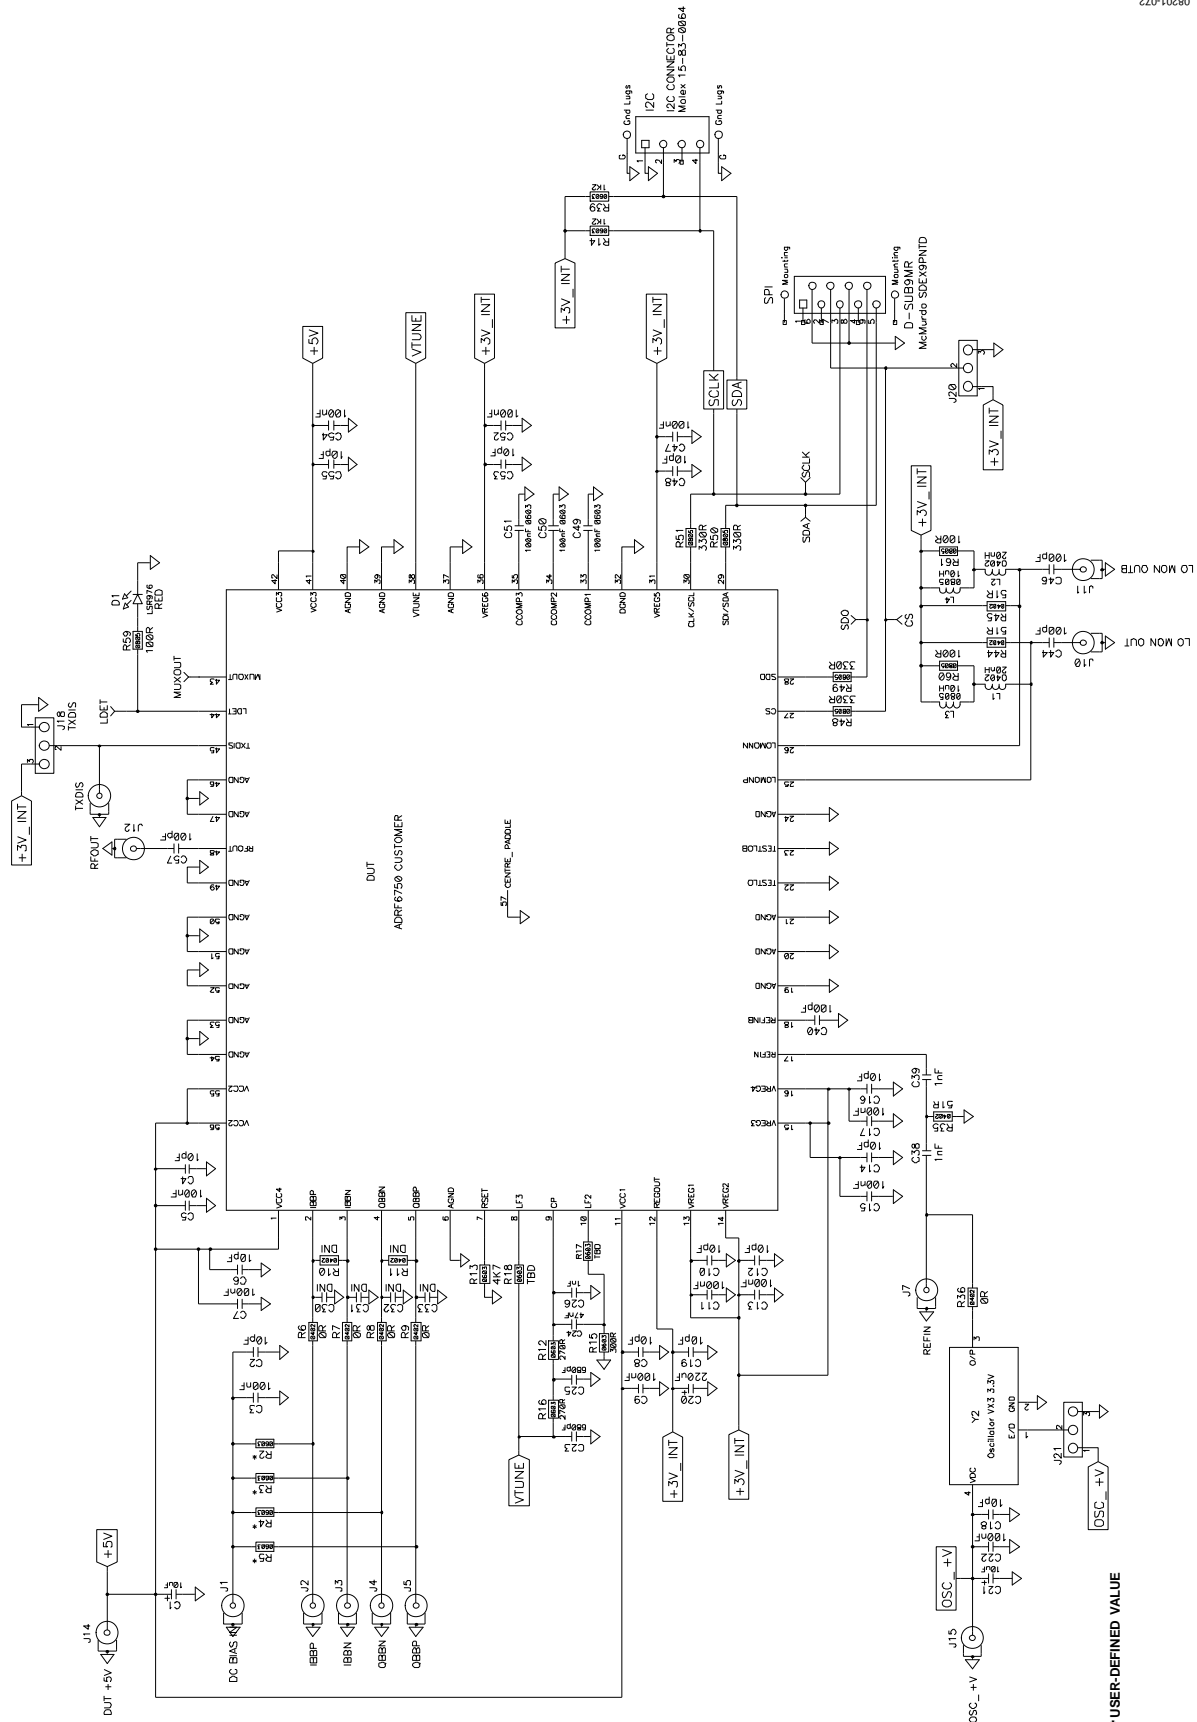

Figure 71. Applications Circuit Schematic
22. Write Register CR9: 0x70. With the recommended loop filter component values and  $R_{SET} = 4.7 \text{ k}\Omega$ , as shown in Figure 71, the charge pump current is set to 2.5 mA for a loop bandwidth of 50 kHz.
For more information, refer to the circuit diagram in Figure 71.